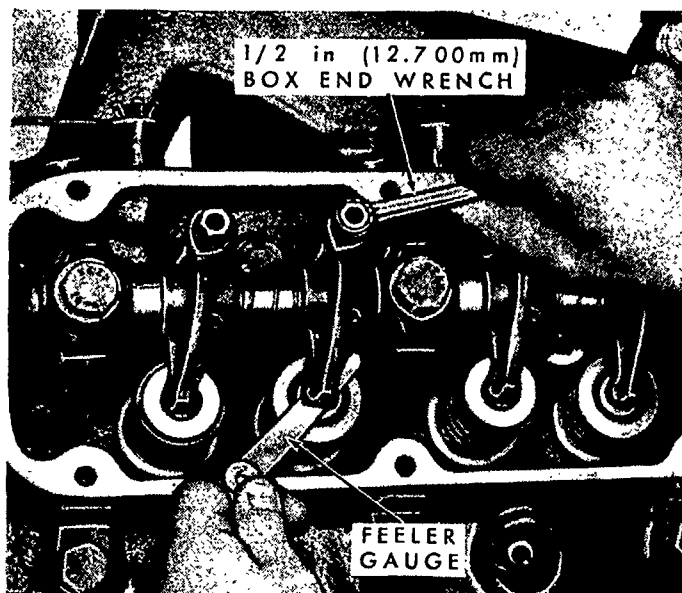

Figure 23
6. Rotate the engine and set the preliminary valve lash, Figure 23, to the specified limits, page 59.